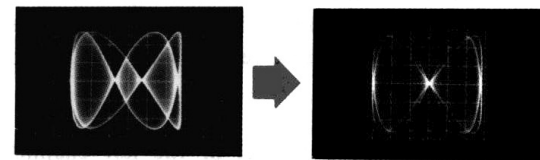

Fig. 5-12. Lissajous pattern
- (2) Adjust the oscilloscope controls to obtain a visible indication. Be sure the scope's horizontal display switch is set for external input.
- (3) Turn the pilot-signal (19 kHz) phase control to obtain an in-phase and stable Lissajous pattern as shown in Fig. 5-12.